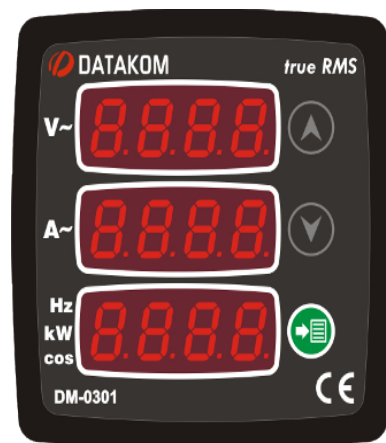

Figure 3
3. Using the digital meter (Figure 3), you can monitor the voltage, amps, and frequency (Hz) of the load.